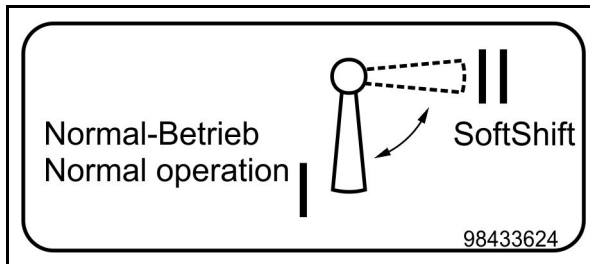

Fig. 513 Pump kit sign
- Move the ball valve (1) (**Fig. 513**) into the “SoftShift” (DAN) position in order to enable SoftShift function b).